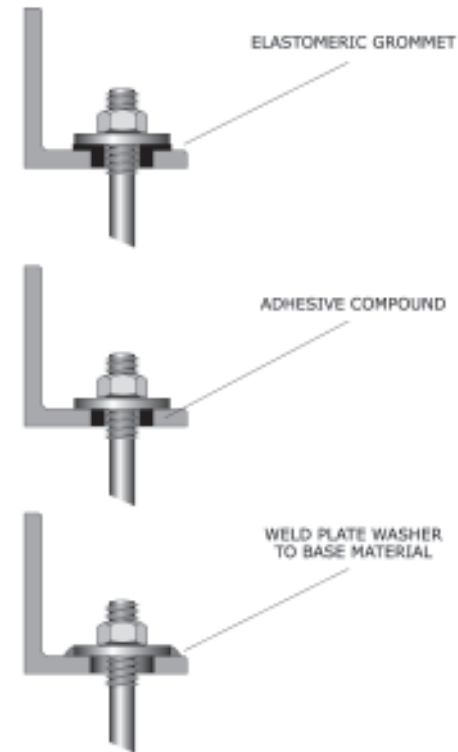

Figure 71: Three options to repair oversized holes.
New holes cannot be oversized or oval in shape. Repair oversized holes as shown in Figure 71 (page 35), if necessary.
**New holes cannot be oversized or oval in shape. Repair oversized holes as shown in Figure 71 (page 35), if necessary.**